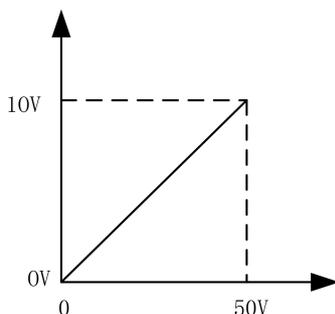

Fig. 4-31 Proportional diagram: preset welding voltage under non-synergic mode V.S. value from robot to welding machine
4. Under non-synergic mode, the proportional diagram of the preset welding voltage is shown in Fig. 4-31.